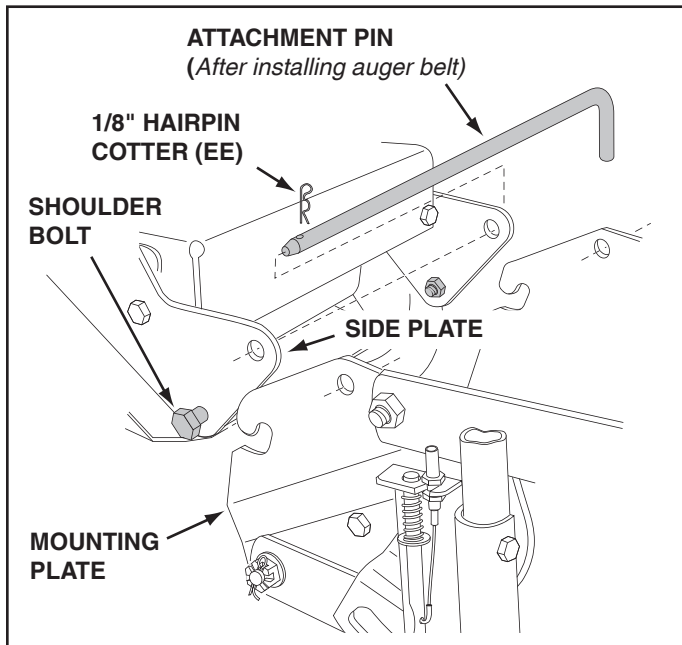

FIGURE 54
STEP 55: (SEE FIGURE 54)
STEP 58: (REFER BACK TO FIGURE 54 ON PAGE 23)
- Lift the front of the snow blower to align the holes in the mounting plates and the side plates. From the left side of the tractor insert the attachment pin through the holes. Secure it with by reinstalling the 1/8" hairpin cotter (EE).